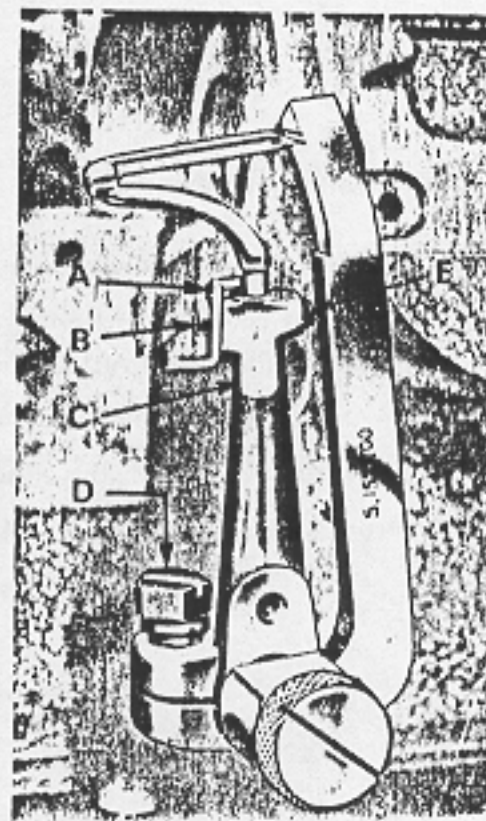

fig. 4
4. Timing primary looper (fig. 4).
- Firmly tighten up screw E (fig. 4).